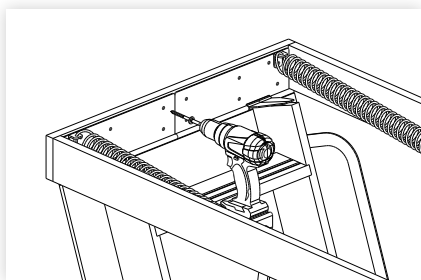

figure 9
5. From a step ladder or work platform (not the attic ladder), fix the hinge end of the ladder to the ceiling framing through the predrilled holes in the hinge plate (figure 9). Use the timbertight screws supplied. Do not fit tight yet.